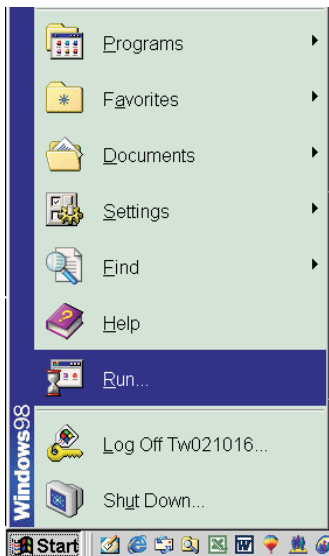

Fig. 5
2. Click Start, choose Run at start menu of Windows as shown In Fig. 5.